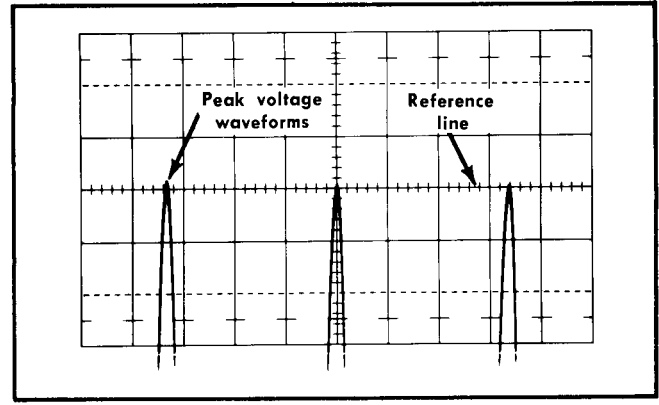

Fig. 6-7. Illustrating method of peak line voltage measurement; Type W plug-in vertical deflection factor 1 V/cm; sweep rate 5 milliseconds/cm.
l. Adjust the autotransformer output until the tips of the waveforms shown on the test oscilloscope reach the reference line established previously by the Type W. (See Fig. 6-7 for typical display). The test oscilloscope is now indicating 178 peak VAC at the autotransformer output, or 126 volts RMS ($\text{RMS} \times 1.414 = \text{Peak}$).